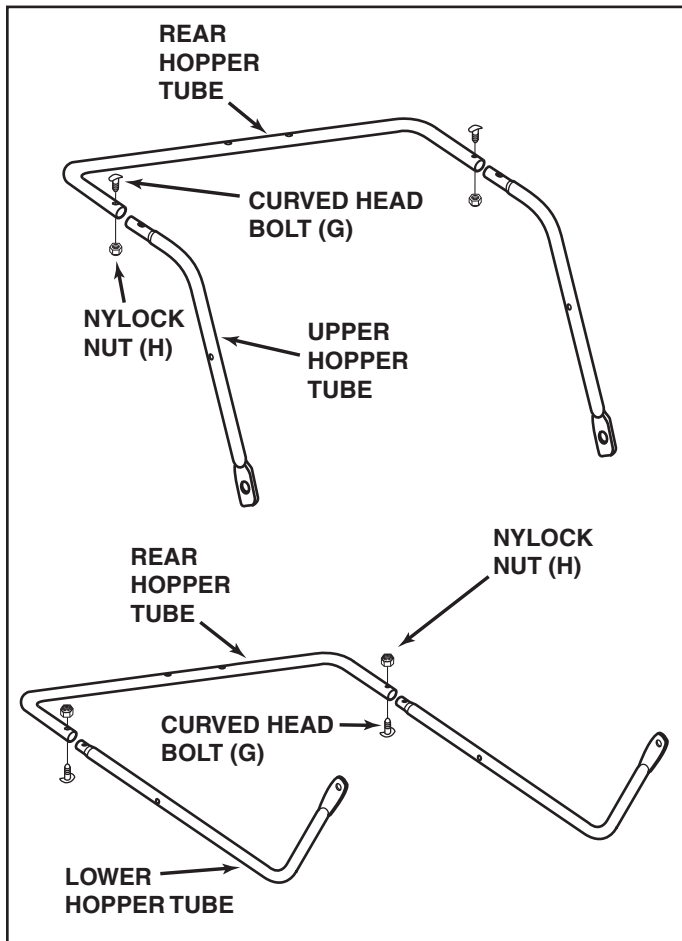

FIGURE 11
STEP 14: (SEE FIGURE 11)
- Fit the ends of the two upper hopper tubes into the ends of a rear hopper tube. Align the holes in the ends of the tubes and secure them in place using two curved head bolts (G) and nylock nuts (H).
- Fit the ends of the two lower hopper tubes into the ends of a rear hopper tube. Align the holes in the ends of the tubes and secure them in place using two curved head bolts (G) and nylock nuts (H).